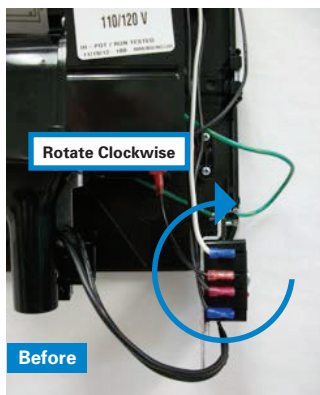
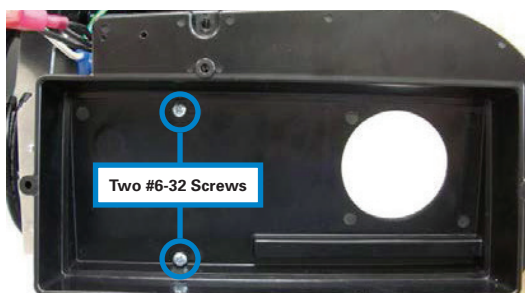
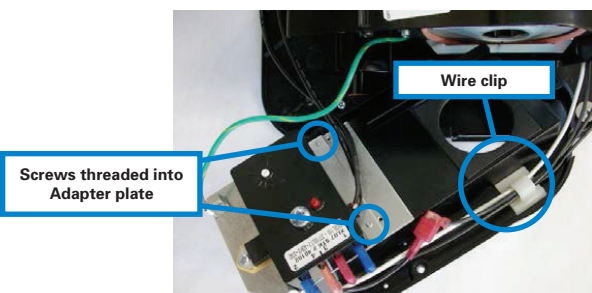

Figure 12A
Figure 14
Figure 15
9. Rotate the Control **clockwise** as shown in **Figures 12A & 12B**. Rotating the Control this way will properly position the wires without having to disconnect and re-connect them. See **Figure 15** for wire orientation.
11. To attach the Control to the Filter Adapter, find the Filter Adapter (A) as shown in **Figure 14**. Align and thread the #6-32 screws (D) from the inside of the Filter Adapter through the Control Adapter Plate (**Figure 15**). Clip the 4 control wires into the white plastic retaining clip on the backside of the Filter Adapter.